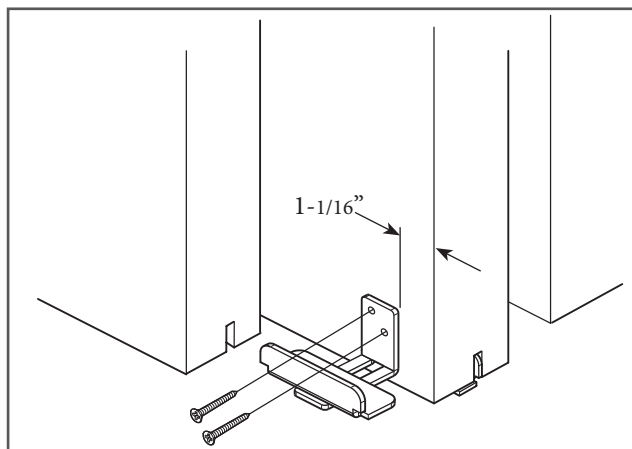

Figure 15
19. Slide both panels or doors toward the open position, sliding the front panel or door past the back for access to the back panel or door lower edge (Figure 15).
20. Mark a line 1-1/16" from the edge of the panel or door (Figure 15).
22. Install the come-along with two 1" phillips screws (E.) using a drill with a phillips bit (Figure 15).